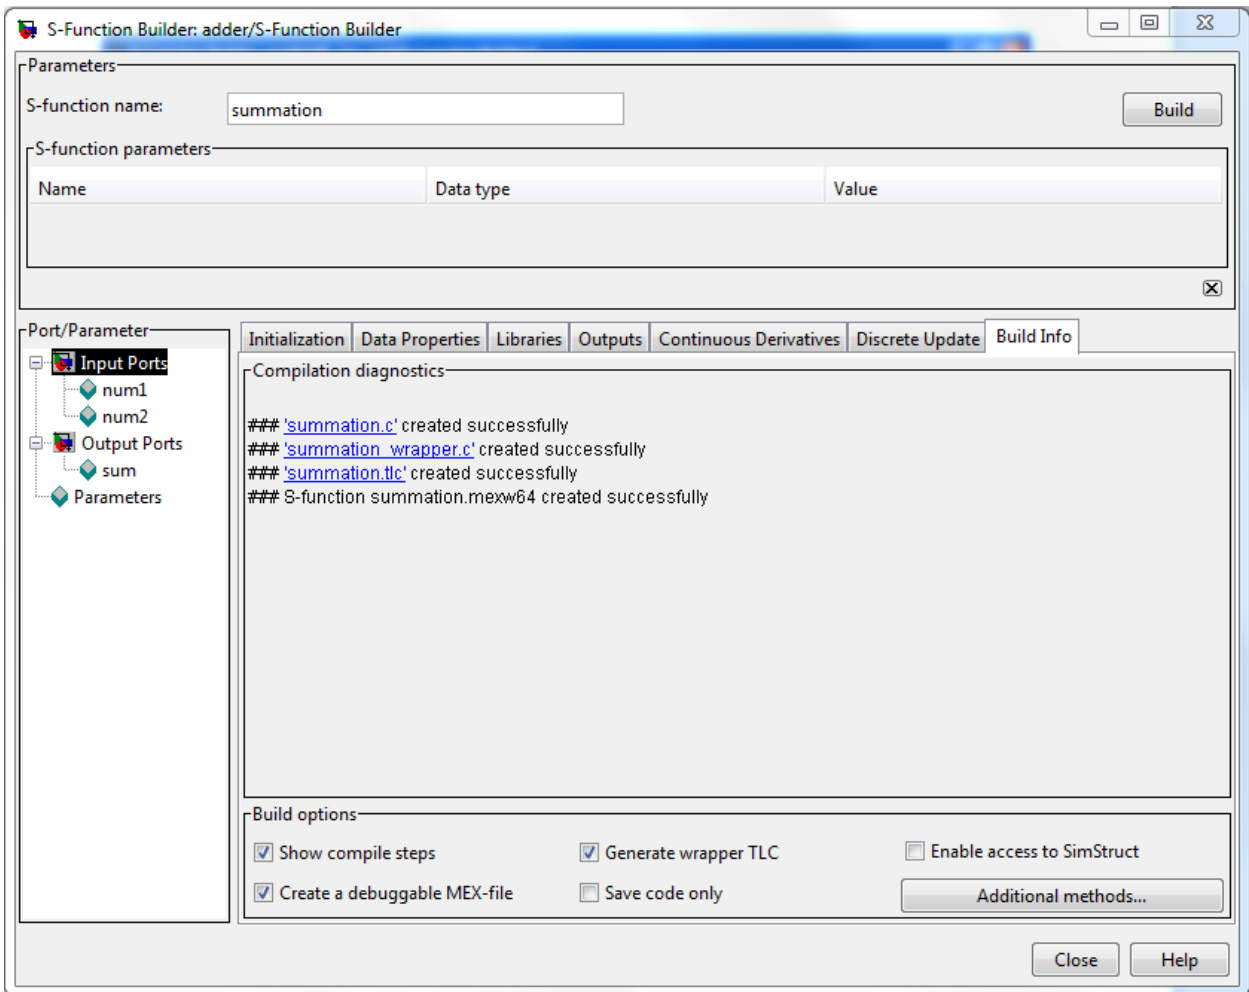

Figure 6
9. You are now ready to build your function. Click on the “Build Info” tab. Check the boxes named “Show compile steps,” “Create a debuggable MEX-file” and “Generate wrapper TLC”. Now click “Build.” If the build process was successful, your window should look similar to figure 6.